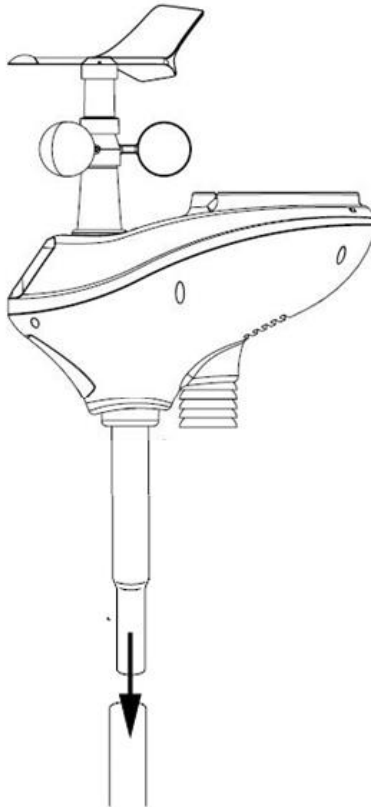

Figure 8
B. Option 2: Swedged Pole Mount. Insert the swedged end of the included mounting pole into the open end of any standard mounting pole solution (1 3/8" diameter) available from Ambient Weather, as shown in Figure 8. For more information on mounting solutions, visit: